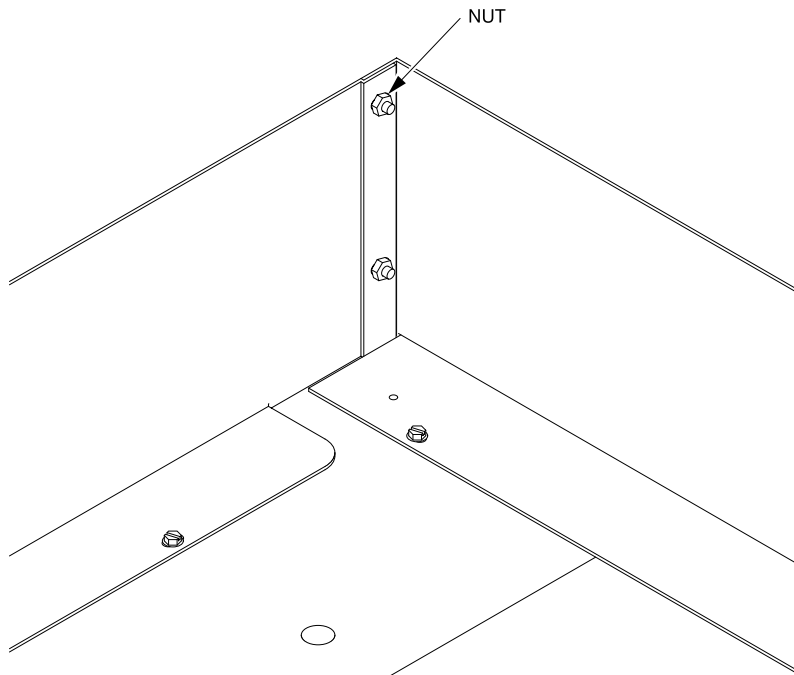

Figure 1
1. Prior to attaching to the condiment stand, assemble the following using nuts 9900081 (see figure 1):